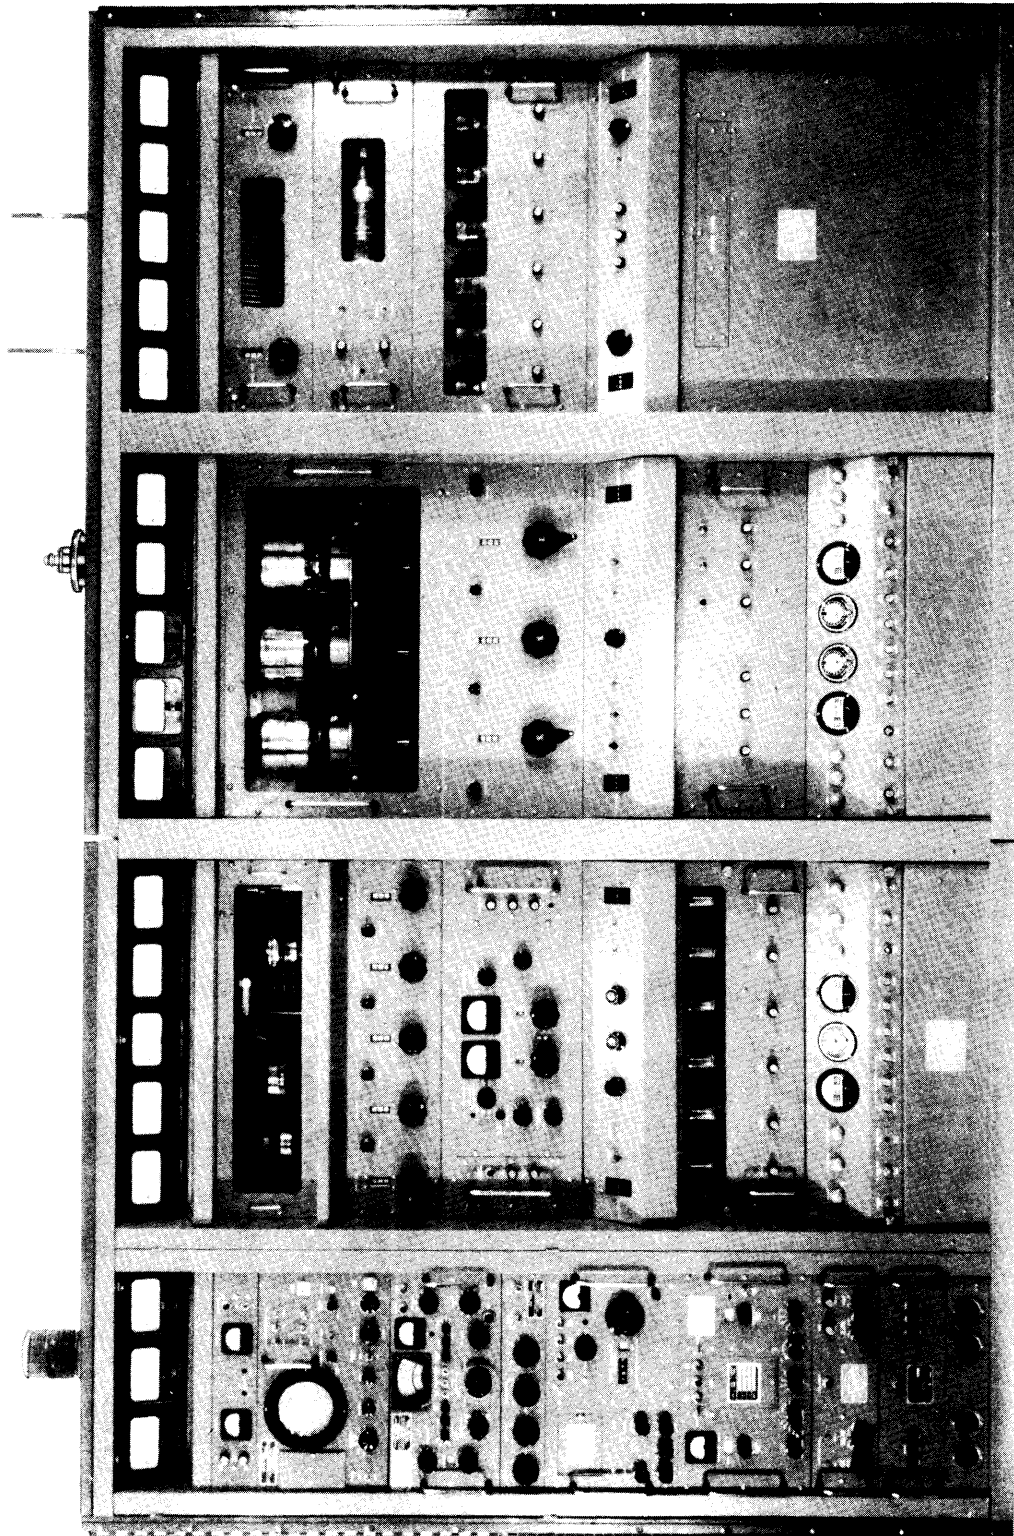

Figure 1-1. Front View, GPT-40K
Figure 1-1 shows that the GPT-40K consists of the following four chassis:
The output of the SBE unit is fed to two RF amplifiers and two IPA's (driver stages). These, too, are described in detail in Part II, Volume I. Note that these stages, which raise the sideband level from 1 to 10,000 watts (PEP), are equipped with power supply, relay and control, protective circuits, and meters. These stages comprise the second chassis from the left, as shown in figure 1-1. Their output may be fed to three places: (1) a dummy load (for tuning and loading), (2) GPT-40K's regular antenna via an emergency connection, and (3) the final PA section of the GPT-40K.